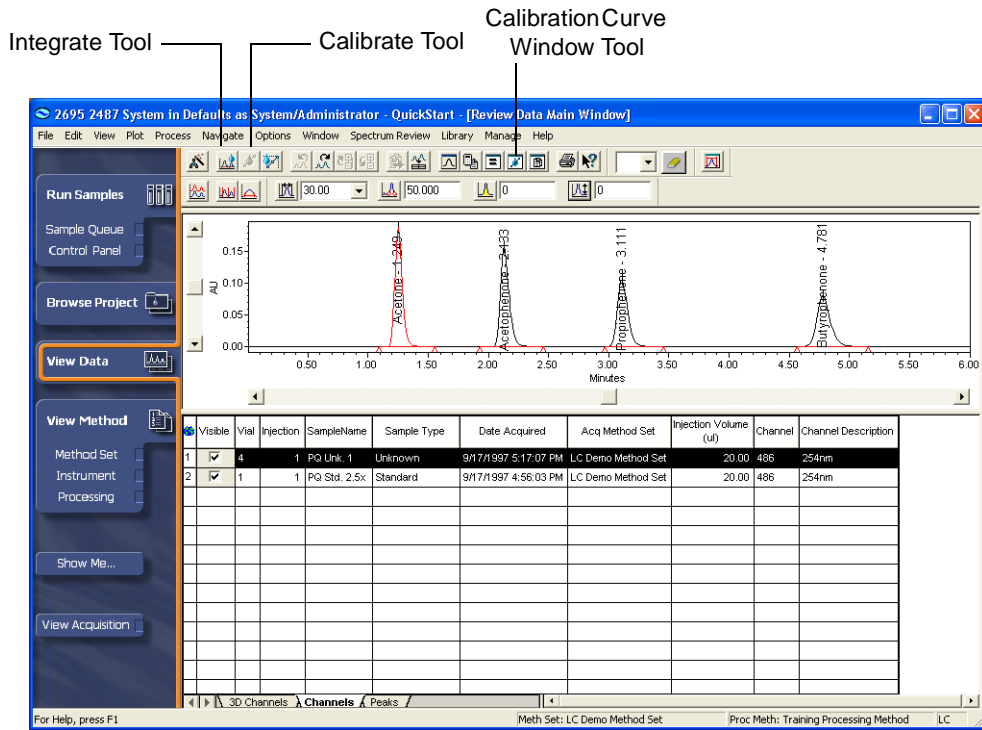

Figure 6-10 View Data with Processed Standard
1. Click  (Integrate) to update the integration of the chromatogram, then click  (Calibrate) to name the components and to create calibration curves for each component from the selected standard (Figure 6-10).